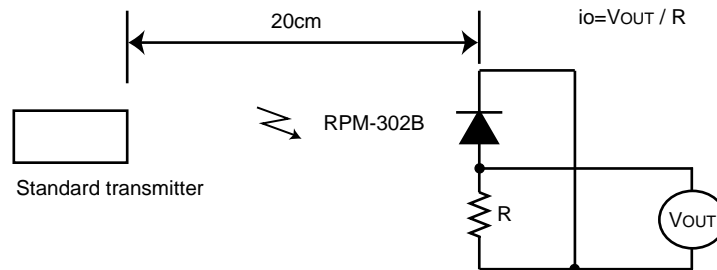

Fig.2 Measurement of standard transmitter proofreading
When standard transmitter output the signal at Fig.1 standard photodiode output become $i_o=5\mu\text{Ap-p}$ under the measurement condition Fig.2.
- (1) All characteristics of the receiver in this specification are specified by supplying burst wave form (Fig.1) with ROHM standard transmitter (Fig.2).